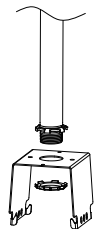

Figure 2
Step 1. Mount the accessory bracket (Part # F-LHB/PNDNTMNT-96 or F-LHB/300PNDNTMNT-96) to a 3/4" NPT conduit (Figure 2).